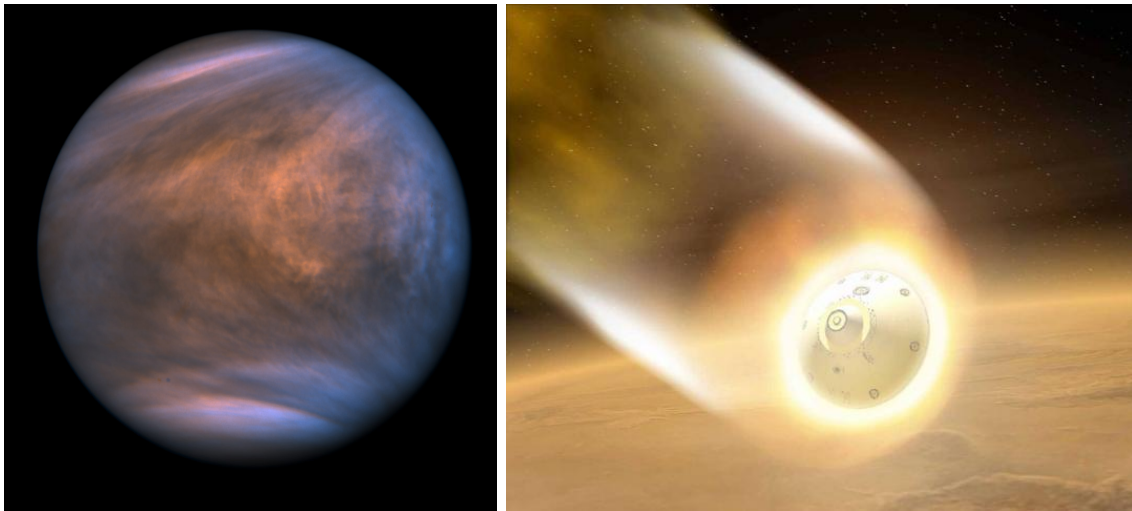

Figure 1: The use of aerocapture in a mission to Venus will allow up to 250% increase in the scientific payload.†‡
*Aerocapture* is a cost-effective technique for inserting a spacecraft into orbit around a planet or moon. It uses drag from the body's atmosphere to reduce the spacecraft's velocity and, thus, transition from a hyperbolic approach trajectory into an elliptical orbit. (Conventionally, propellant would be used instead to generate reactive thrust.) Currently, aerocapture is only a theoretical possibility and not a practical reality. A space science and technology organisation is aiming to use aerocapture to put a scientific satellite into orbit around Venus – Figure 1. **You are part of the engineering team developing the aerocapture system.**